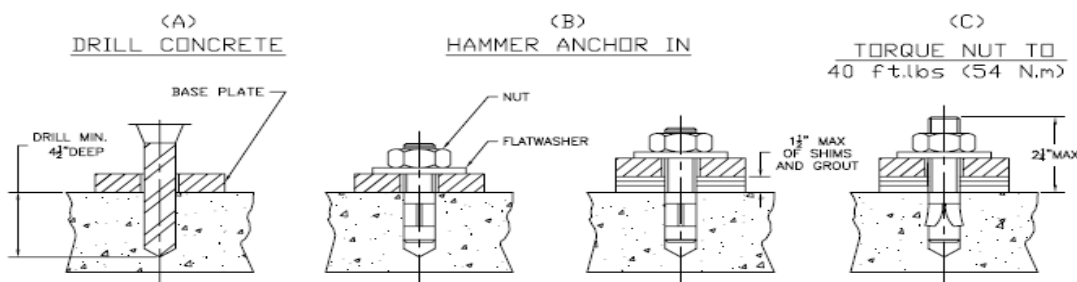

Figure 18 – Anchoring
3. Using a rotary hammer drill and a 1/2" concrete bit, drill through the floor at each of the four (4) anchor bolt locations on each of the base frames. Refer to **Figure 18**.